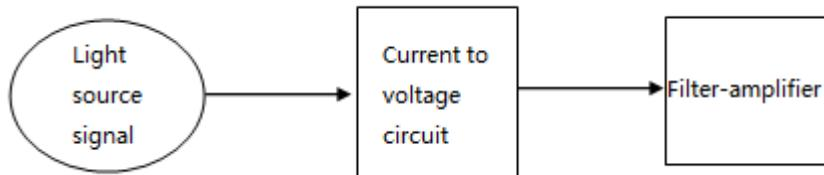

Figure 8-14 Optical signal function module
The light source signal in Figure 8-14 is from a semiconductor laser with a wavelength of 670nm. The laser irradiates the cells in the flow cell, which generate scattered light. This scattered light intensity is measured by photodiode (PD) from various angles. The measurement signal is then modulated, amplified, and transmitted to analog drive board for further processing. The scattered light measured by the photodiode can be divided into three angles: low angle scatter, medium angle scatter and high angle scatter. The type and size of the cell can then be determined by the distribution of scatter intensity on these angles.